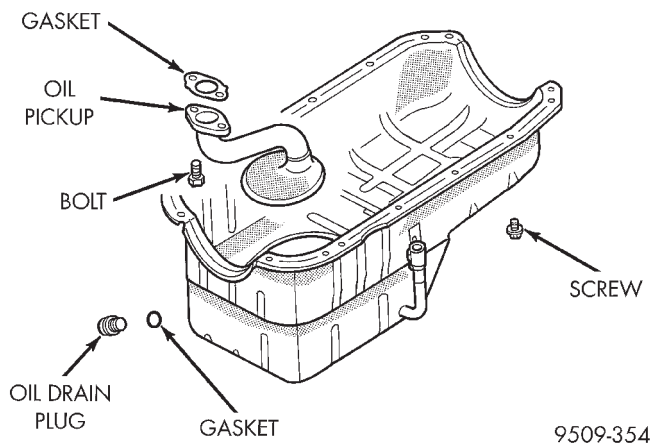

Fig. 72 Oil Pan
- (2) Remove oil drain plug and drain oil (Fig. 72).
- (3) Remove exhaust cross-under pipe. Refer to Exhaust Manifold, in this section for procedure.
- (4) Remove drive belt splash shield.
- (5) Remove dipstick tube.
- (6) Remove starter motor. Refer to Group 8B, Battery/Starter/Generator Service for procedure.